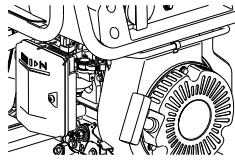

figure 4-3
- (3). Pull the choke lever to "Close" (See figure 4-3).